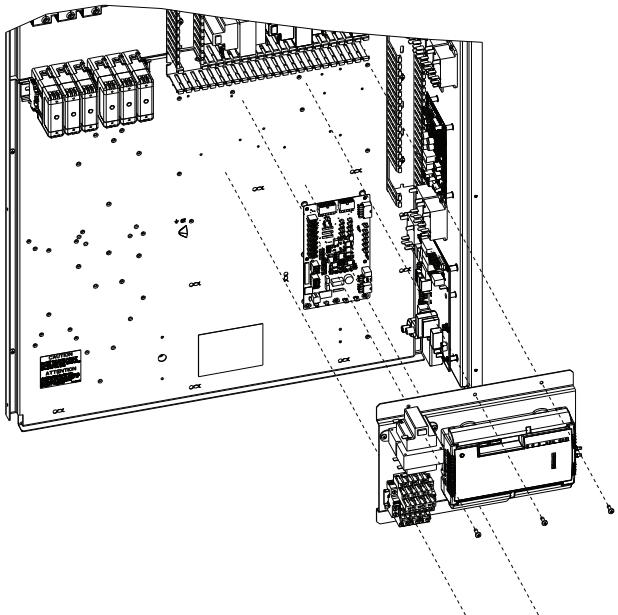

Fig. 4 – Mounting Bracket Installation
3. Using five No. 10 self-drilling screws, install the Mounting Bracket in Control Box. (See Fig. 4.)